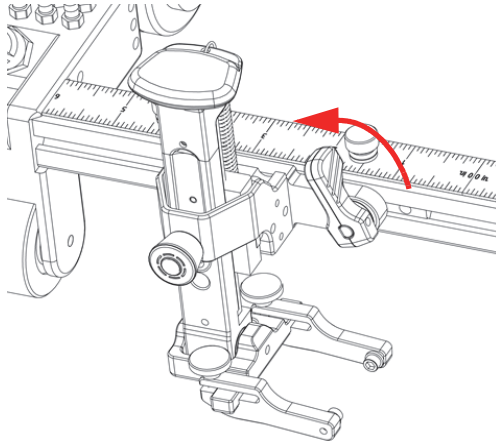

Figure 2-14 Position lever unlocked
1. Turn the position lever counterclockwise to unlock the probe holder (Figure 2-14 on page 46).